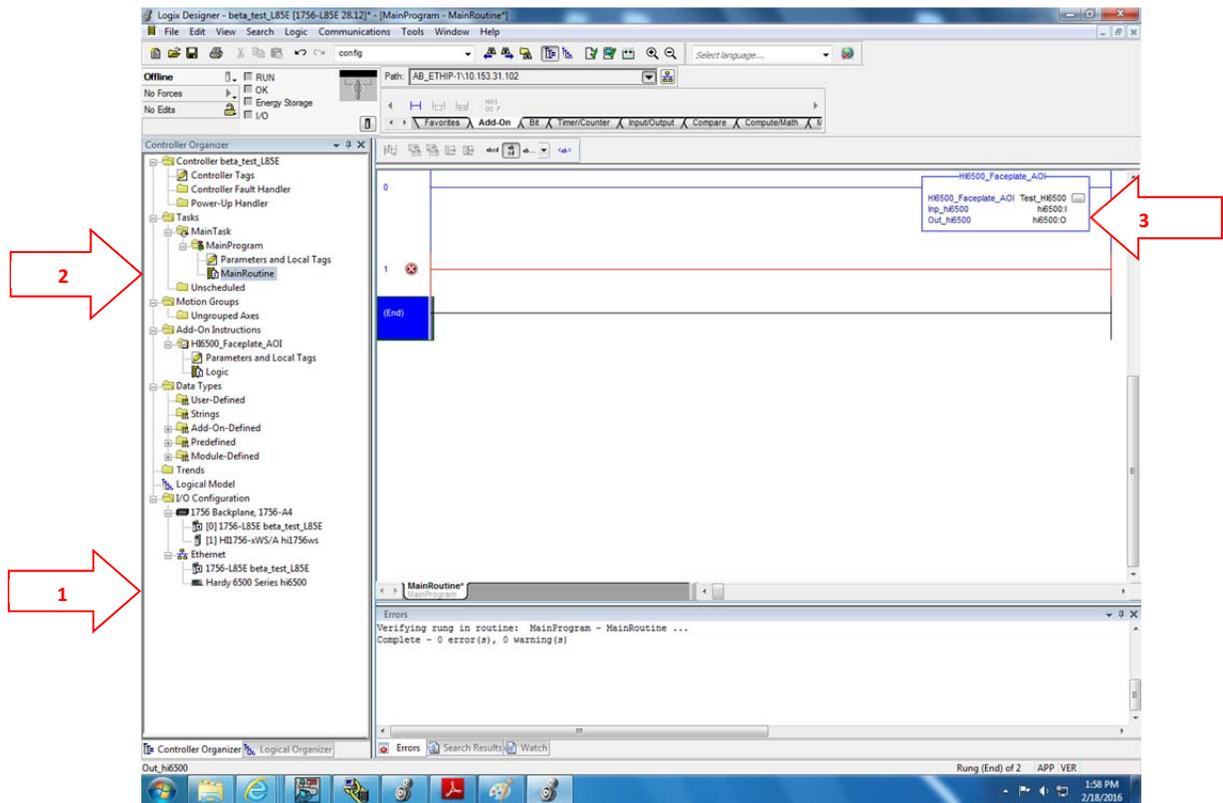

Figure 18
- Add the HI 6500 instrument to the I/O configuration structure. See Figure 18, note 1. Each instrument added should have a unique name.
- Add the AOI onto the main routine See Figure 18, note 2.
- Inp_hi6500: Associate this label with the Input table for the HI 6500 instrument. Click and drop down the list to find the input tables for each device. Choose the one for the HI 6500 unit by its name in the controller tags. See Figure 18, note 3.
- Out_hi6500: Associate this label with the Output table for the HI 6500 instrument. Click and drop down the list to find the output tables for each device. Choose the one for the HI 6500 unit by its name in the controller tags. See Figure 18, note 3.